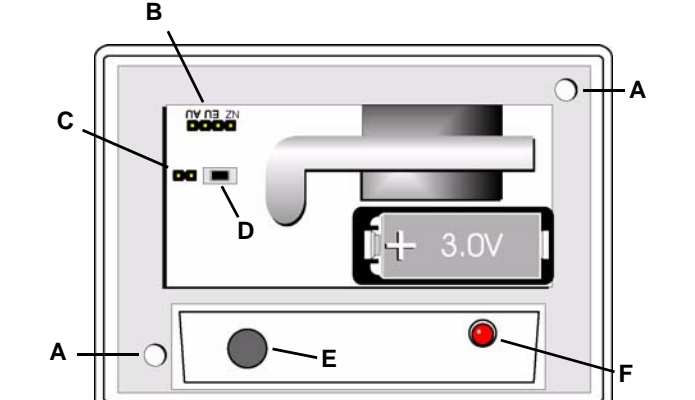

Fig. 1 ES1247 Components
- Install the battery (Fig. 1).
- Press the Reset button to initialize the transmitter (Fig. 1).
- Place a selection jumper on the appropriate frequency band selection pins (Fig. 1).